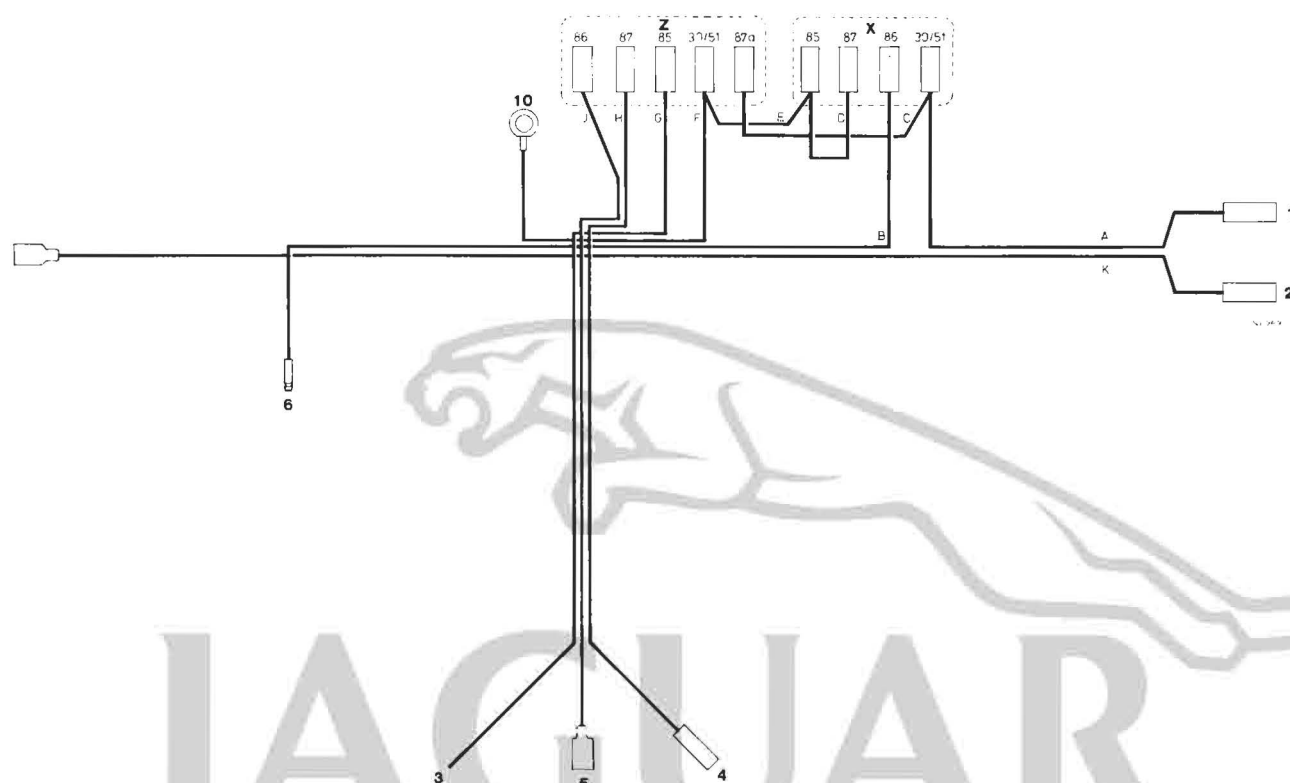

FIG. 3
15. Using 14/0.30mm (14/0.012in) gauge cable, manufacture and assemble harness and attach to relays as shown in Fig. 3. The cable lengths are shown below:
Use lucar connectors GHF 2051 and sleeves GHF 2151 at relay connections and at connections 4 and 7 (Fig. 3), bullet connectors GHF 2000 and snap connectors GHF 2210 at connections 1, 2 and 6 (Fig. 3), and use male lucar GHF 2060 and sleeve GHF 2153 at connection 5 (Fig. 3). Leave the white cable bare at 3 (Fig. 3). Tape cables G, H and J together from the relay to 75mm (3in) from connections 4 and 5.
Attach relays to mounting bracket and connect harness as follows (refer to Fig. 3):
- 3 Remove connector block from main relay (D Fig. 2) situated on the bulk-head and using a suitable implement (e.g. a small electrical screwdriver), displace the white (W) cable lucar connector. Cut lucar off and discard, join cable to white cable of new harness (3 Fig. 3), attach lucar with retaining tang (Part No. JLM 310), and solder joint. Locate lucar in connector block and refit to main relay. Ensure that lucar retaining tang has locked.
- 4 & 5 Remove black/green (BG) cable from the starter relay (E Fig. 2), and attach green/red (GR 4 Fig. 3) to relay. Connect displaced black/green (GB) to green/black (GB) of new harness (5 Fig. 3).
- 6 Connect green/brown (GN) (6 Fig. 3) to green/brown (GN) compressor feed situated on the inner wing panel adjacent to the line splice (C Fig. 2).
- 7 Disconnect green (G) ignition feed from horn relay (F Fig. 2) and attach to piggy back connector (GHF 2420). Connect green cable (7 Fig. 3) to piggy back and refit to horn relay.